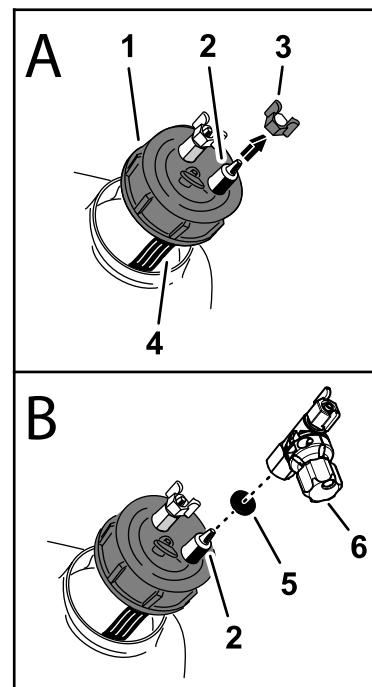

Figure 1
1. Locate the black tank cap on the end of the foam-marker tank assembly (Figure 1).
2. Unscrew the tank cap and lift it from the tank enough to see the blue filter tube (Figure 1).
3. Remove the blue compression nut from the fitting on the tank cap **connected** to the blue filter tube inside the tank (Figure 1).
4. Install the cap-mounted regulating valve and gasket onto the fitting of the tank cap and position the valve as shown in Figure 1.